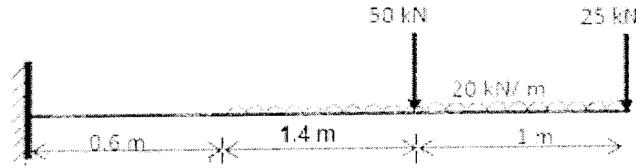

Figure 2
5. Draw the shear force and bending moment diagrams for a beam of span 2.4 m supported and loaded as shown in Figure 2.